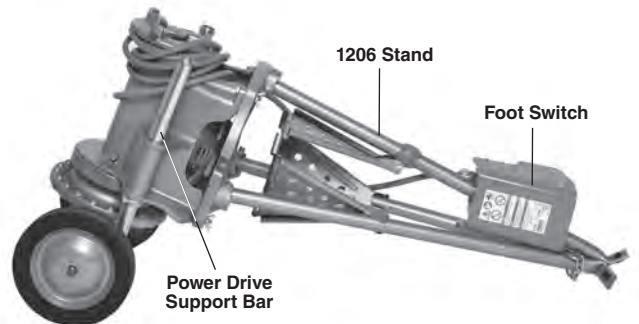

Figure 29 – Machine Prepared for Transport with No. 32 Transporter
5. Coil up the power cord and slide foot switch cover over one leg as shown in *Figure 29*.